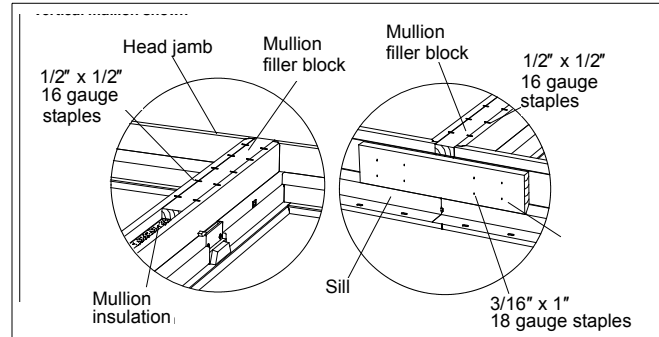

Figure 25
3. Insert mullion insulation between side jambs or head jamb and sill depending on your configuration. Insert mullion filler blocks at each end of mull cavity and at center in units with jambs 55" (1397) or longer. Attach blocks using 1/2" x 1/2" 16 gauge staples spaced every 4" (102). Attach mullion tie blocks at sill mullion with at least four 3/16" x 1" 18 gauge staples on each side as shown in figure 25.